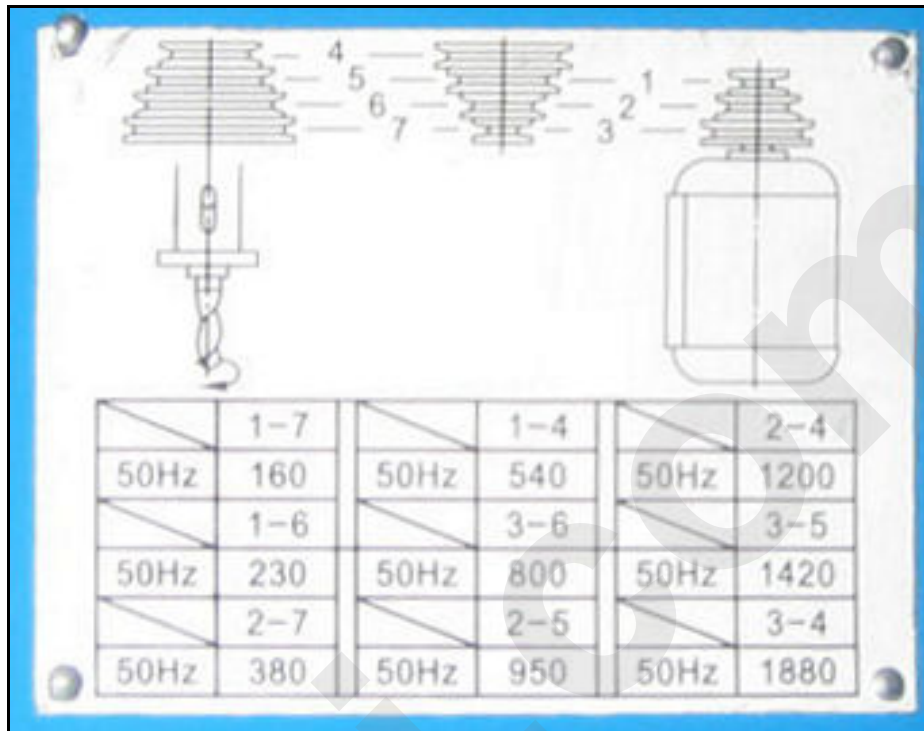

Figure 4 - Spindle speed change labels.
The shield of the pulley compartment (on the right hand side of the machine) carries labels that indicate the possible spindle rotation speeds and the corresponding belt-and-pulley configurations for achieving each of them (figure 4).
6. Set the desired speed by changing the position of the belts according to the indications shown on the spindle speed labels attached to the machine (figure 4).
8. Tighten the bolts (1) which lock the central pulley, by using a wrench.